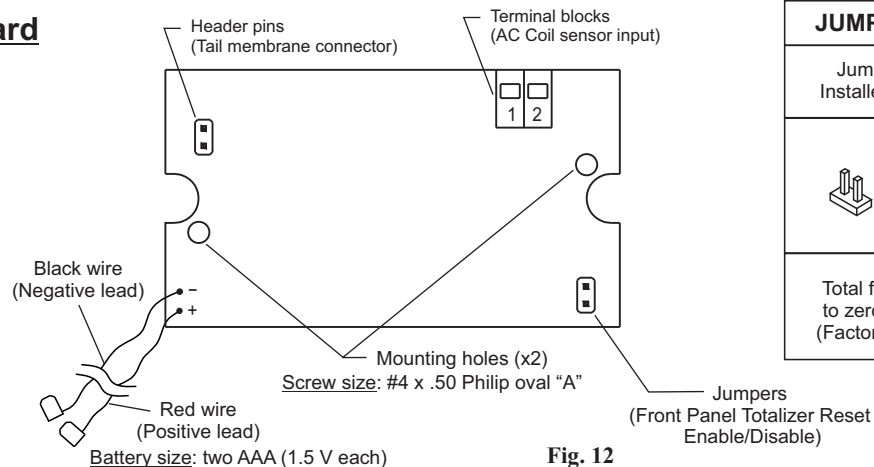

Fig. 12
- **Model F-1000-TB:**The F-1000-TB is the basic totalizer meter. The meter will display the total flow amounts from .01 through 999999 in any engineering units. Some standard units of measure are GALLONS, LITERS, CUBIC METERS. Pressing and holding the RESET button (located on the front panel) for at least 2.0 seconds resets the total to zero. This feature can be disabled -- see Fig. 12 below.
- **Model F-1000-RT:**The F-1000-RT is the rate and totalizer meter. The meter will display the flow rate amounts and the total flow amounts from .01 through 999999 in any engineering units. Some standard units of measure are GALLONS PER MINUTE, GALLONS PER HOUR, GALLONS PER DAY, LITERS PER MINUTE, LITERS PER HOUR, LITERS PER DAY, CUBIC METERS PER HOUR, CUBIC METERS PER DAY. Pressing the RESET button (located on the front panel) toggles the display between flow rate and total flow. Pressing and holding the RESET button for at least 2.0 seconds while the total flow value is displayed will reset the total to zero. This feature can be disabled -- see Fig. 12 below.